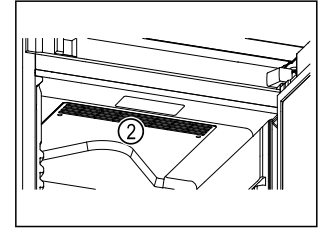

Fig. 63
- ☐ Ventilation slots Fig. 63 (2) for recirculation fan in the interior must be kept clear.